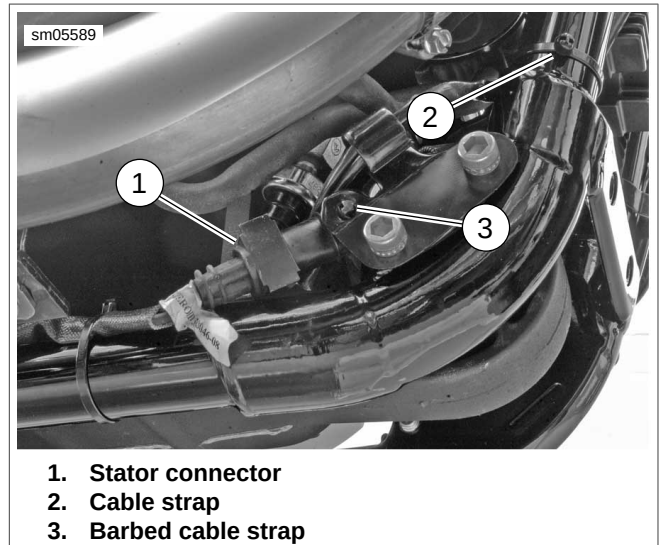
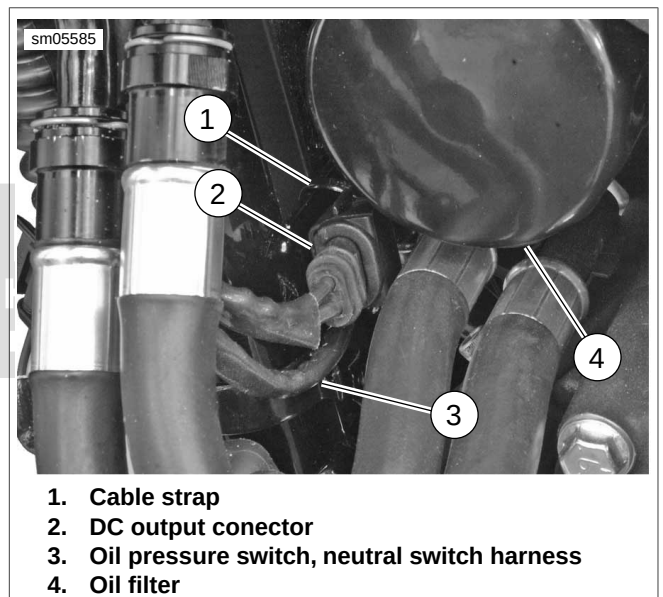

Figure 6-13. Stator Connector: XR Models
Figure 6-14. DC Output Connector: XR Models
5. See Figure 6-13. Connect stator connector (1) and fold external latch over and lock in place. Secure stator connector to bracket with barbed cable strap (3).
6. Secure stator wires to right frame down tube with cable strap (2).
7. See Figure 6-14. Connect voltage regulator DC output connector. Fold external latch over and lock in place.
8. Secure DC output connector (2) along with oil pressure switch, neutral switch harness (3) to voltage regulator bracket with cable strap (1).